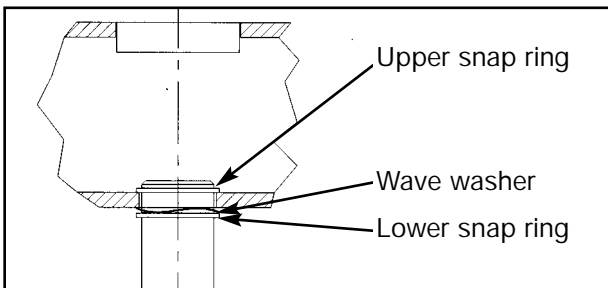

Figure 1
- A. Using an external snap ring pliers, slide the lower snap ring (and wave washer) down and about 2 inches from the top part of the guide rod (this will provide access to the upper snap ring). Repeat this step for the other guide rod. See Figures 1 and 2.
NOTE: Be sure wave washer is between frame and lower snap ring. See Figures 1 and 2.